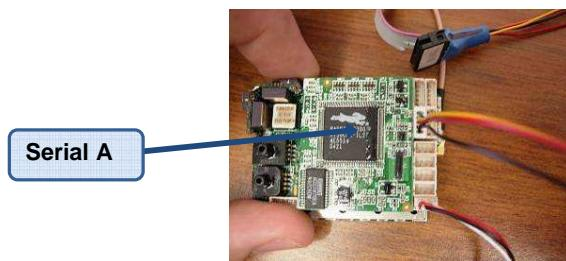

Figure 7-8 Plugging programming pig-tail into serial A on autopilot use with HIL
11. The next step is to make sure that Aviones is setup to talk to the autopilot through the correct comm port. Open up the HIL Simulation Control Dialog through the View Menu->HIL Sim Ctrl. When the dialog is opened it will fill in the current autopilot information that was originally contained in the autopilot1032_regs.txt file. This is shown in Figure 7-8.